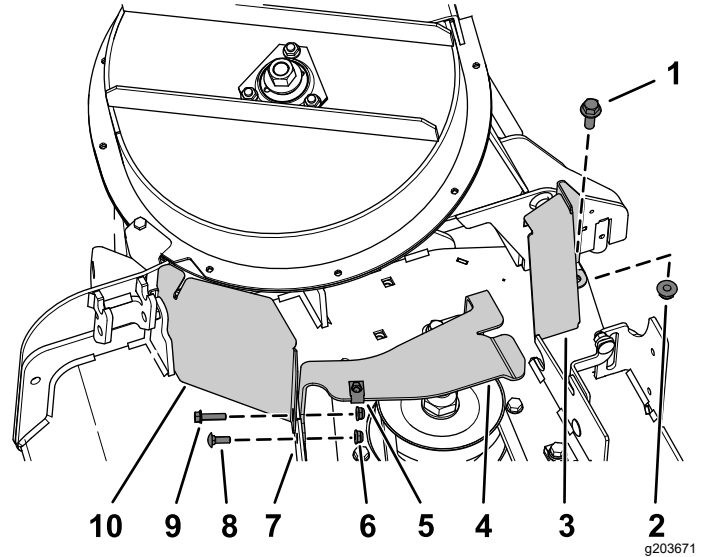

Figure 11
1. Align the holes of the CE pulley guard to the hole in the forward deflector bracket and the outboard hole in the forward deck flange (Figure 11).
2. Align the CE belt-cover bracket to the holes at the rear side of the forward deck flange (Figure 11).
3. Secure the CE pulley guard and the belt cover bracket to the forward deck flange at the outboard hole with the hex-head bolt (1/4 x 1 inch) and a flange nut (1/4 inch) as shown in Figure 11.
4. Secure the belt-cover bracket to the forward deck flange at the inboard hole with the a carriage bolt (1/4 x 3/4 inch) and a flange nut (1/4 inch) as shown in Figure 11.
5. Align the hole in the rear flange of the CE belt-cover bracket with the hole in the deck where you removed the belt cover bracket in step 1 of Removing the Cover Mounting Bracket (page 3); refer to Figure 11.
6. Secure the rear flange of the CE belt-cover bracket to the deck with a hex-head bolt (3/8 x 1 inch) and a flange nut (3/8 inch) as shown in Figure 11.
7. Align the clip nut with the hole in the top of the CE belt-cover bracket, and push the clip nut onto the bracket (Figure 11).
8. Loosely install the rear guard to the mower deck using a hex-head bolt (3/8 x 1 inch) and a flange nut (3/8 inch) as shown in Figure 11.